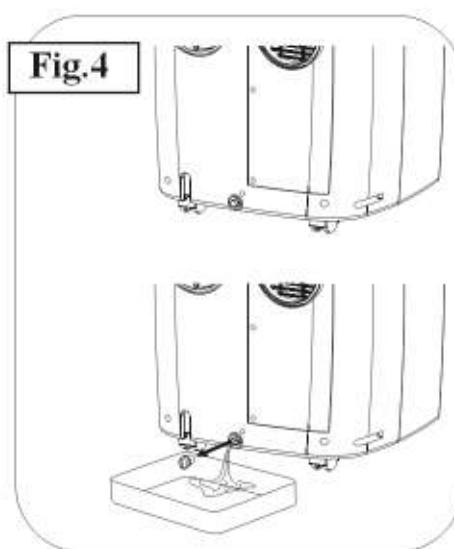

Fig.4
- 1) Drain excess water from the tank by placing a pan under the drain water outlet (Fig.4)